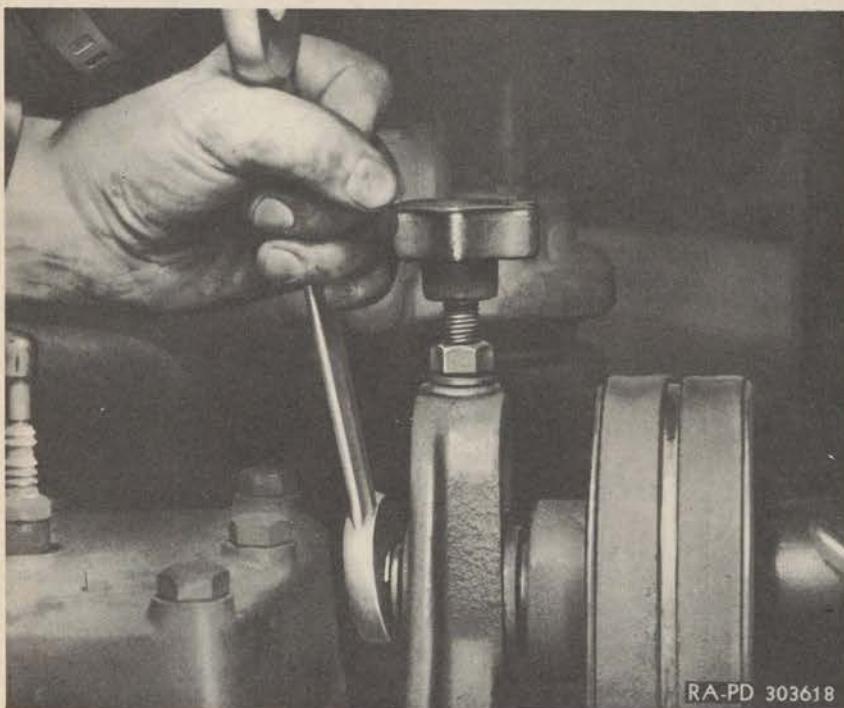

Figure 72—Tightening Fan Spindle Clamp Nut
(1) **LOOSEN THE FAN SPINDLE AND CLAMP NUT.** Back off the clamp nut between the front of the engine and the fan mounting bracket (fig. 72). Loosen up the spindle in the slot.
(3) Hold the adjusting screw and tighten the adjusting screw lock nut.
(4) Tighten the fan spindle clamp nut between the front of the engine and the fan mounting bracket (fig. 72). Check adjustment again.